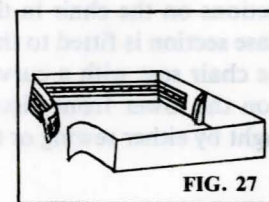

FIG. 27
**Join back boxing to front boxing** and test to see that it fits snugly around the cushion (Figure 27).